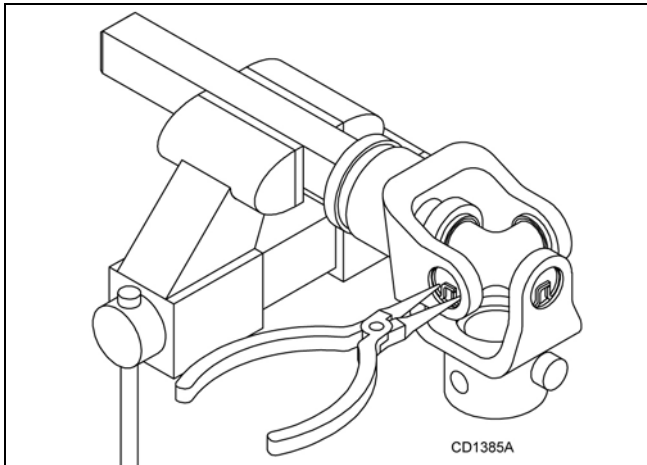

Figure 17. Remove Snap Ring
1. Remove external snap rings from yokes in four locations as shown in Figure 17.